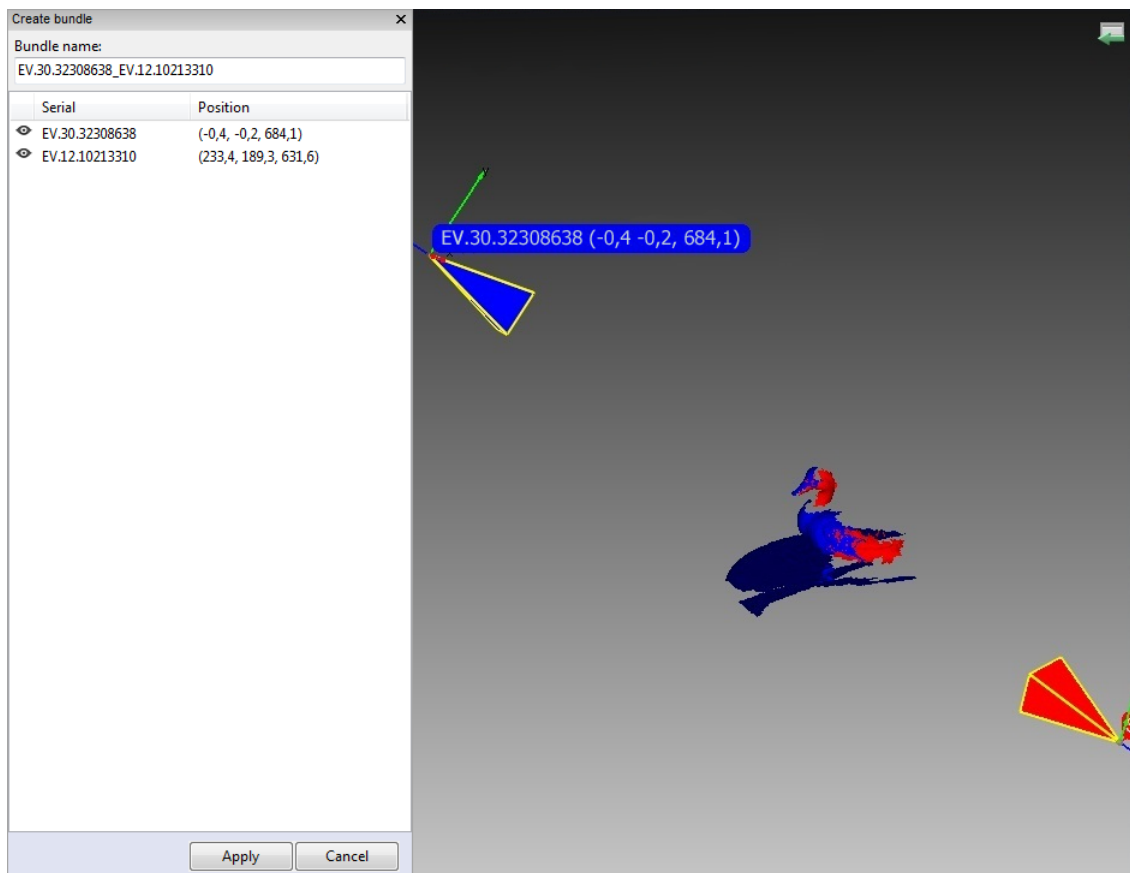

Figure 110: Bundle-creation window.
5. From the menu, select *File* → *Create bundle*. A warning message will appear if you forget to align the scans. Otherwise, the bundle-creation panel will appear (see Figure 110). The *3D View* window will show the selected scans, the position and viewing direction of the scanners (by means of an appropriately colored pyramid), the device ID, and the scanner coordinates. It will display a list of connected devices and corresponding information.